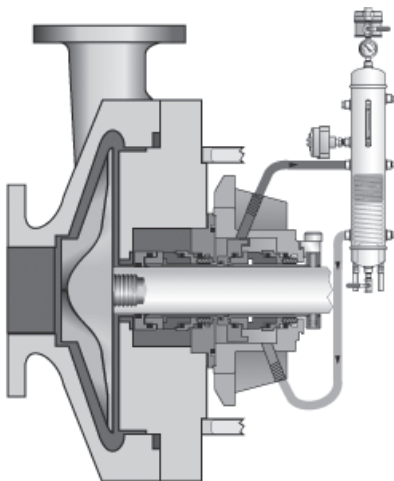

Figure 6
- 7.3 For **running a dual pressurized seal (double seal)**, supply a clean, compatible barrier fluid at a pressure at least 25 psi (1.7 bar) above the seal chamber pressure. See Figure 6. The pressure of the barrier fluid must not exceed the recommended maximum pressure.